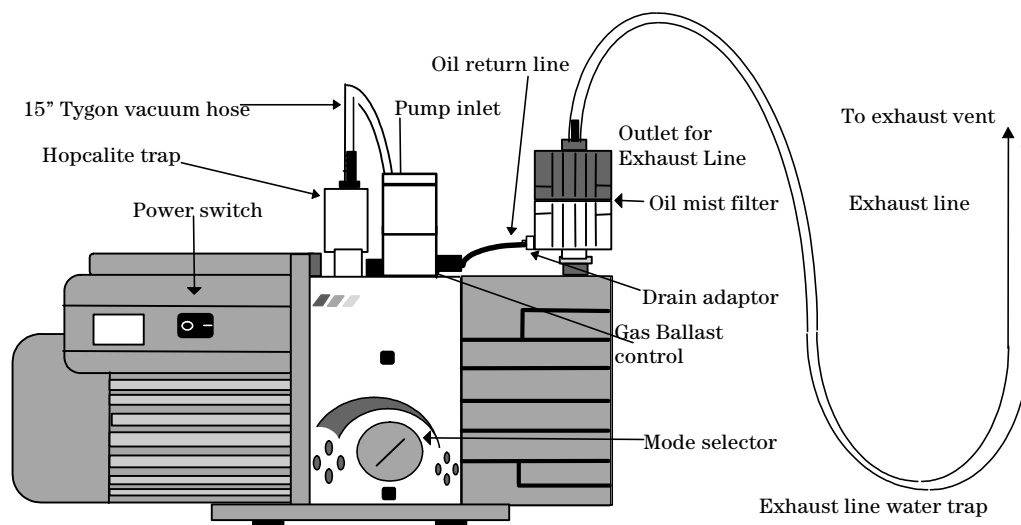

Figure 4 RV-5 Oil-Sealed Vacuum Pump Exhaust Line
35. Shape the exhaust line to capture excess water (Figure 4). Do not allow water to condense in the exhaust line and drip back into the coalescing filter. Alternatively, install a water trap using a vacuum flask after the coalescing filter to capture excess water and prevent water from dripping back into the coalescing filter.
Set the mode selector to the High Vacuum mode, the small  symbol (Figure 4).
1. Set the mode selector to the High Vacuum mode, the small  symbol (Figure 4). Do not set the mode selector to the High Throughput mode, the large  symbol.